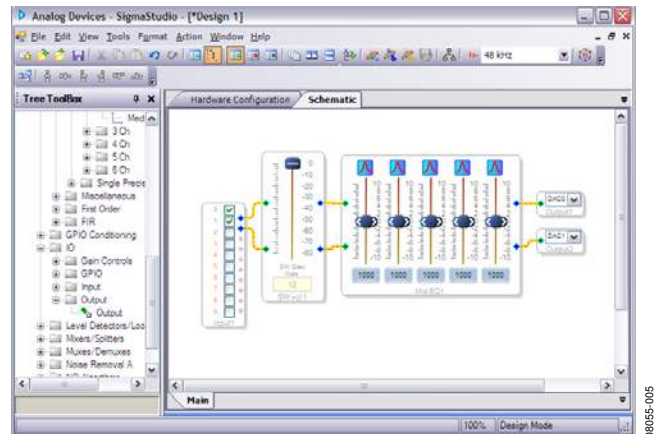

Figure 5. Schematic Tab, Full Design
11. Connect all the cells as depicted in Figure 5.
13. If the project compiles with no errors, you will be in **Ready-Download** mode (indicated by a green bar across the bottom of the window). Your screen should now resemble Figure 5.